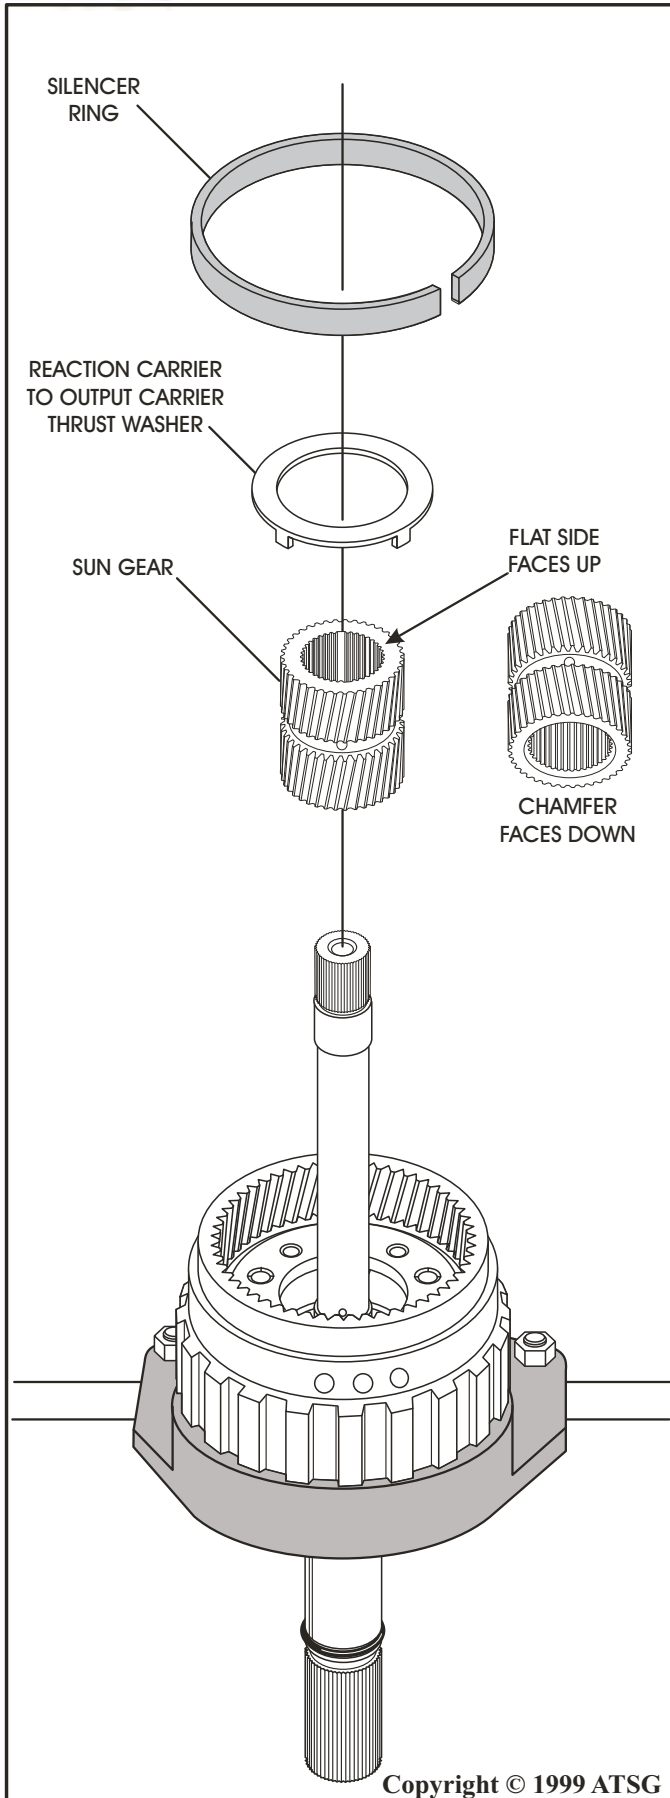

Figure 64
22. Install the sun gear over the main shaft and into the output carrier by rotating into position, with inside chamfer **down** as shown in Figure 64.
23. Install the reaction carrier to output carrier thrust washer, ensuring that the tabs engage in the holes in output carrier, and retain with a small amount of TransJel® (See Figure 64).
24. Install the silencing ring over the top side of the output carrier. Refer to Figures 64 and 65.